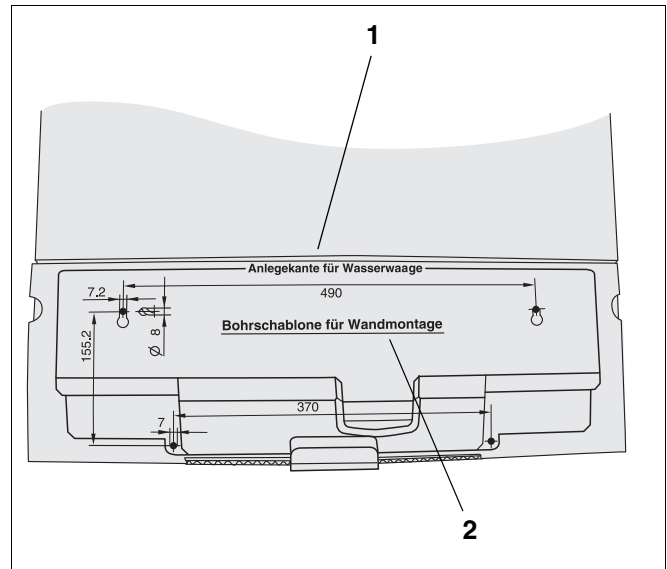

Fig. 1 Drilling template
- Separate the drilling template from the lid of the control unit carton (→ Fig. 1).